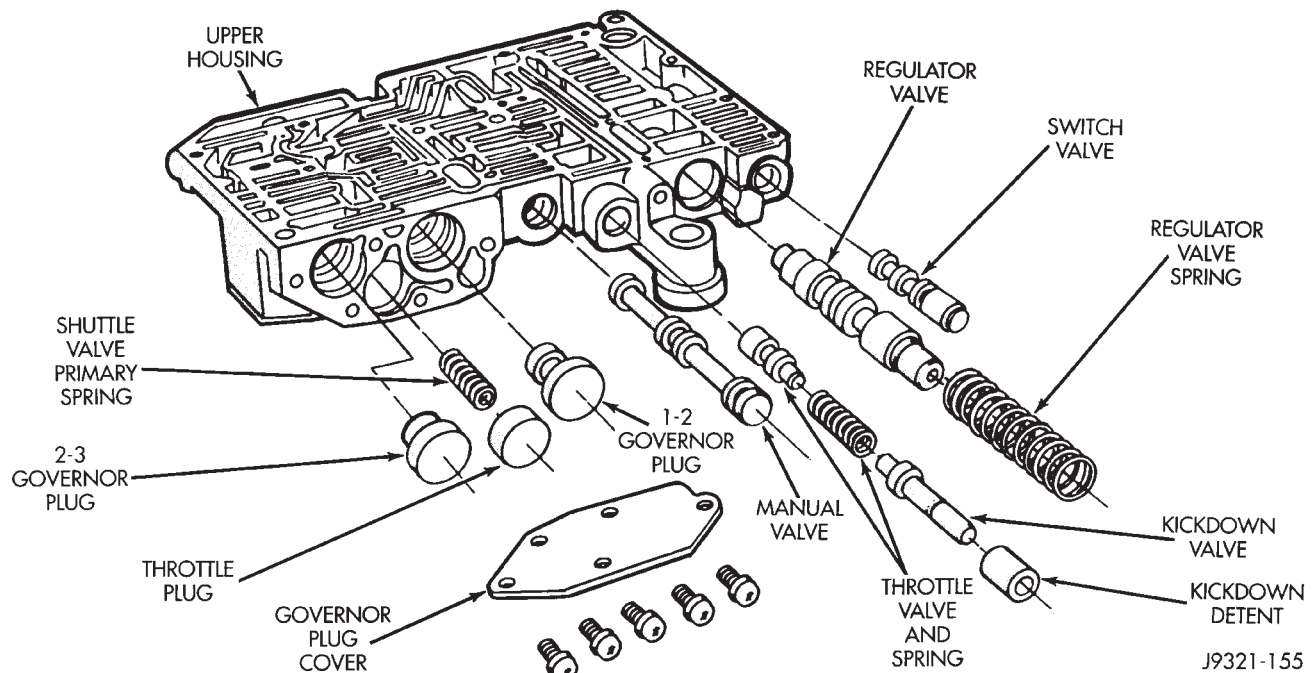

Fig. 122 Control Valve Locations In Upper Housing
(6) Turn upper housing over and remove switch valve, regulator valve and spring, and manual valve (Fig. 122).
(7) Remove kickdown detent, kickdown valve, and throttle valve and spring (Fig. 122).
(8) Remove throttle plug and 1-2 and 2-3 governor plugs (Fig. 122). Also remove shuttle valve primary spring if not removed in prior step.